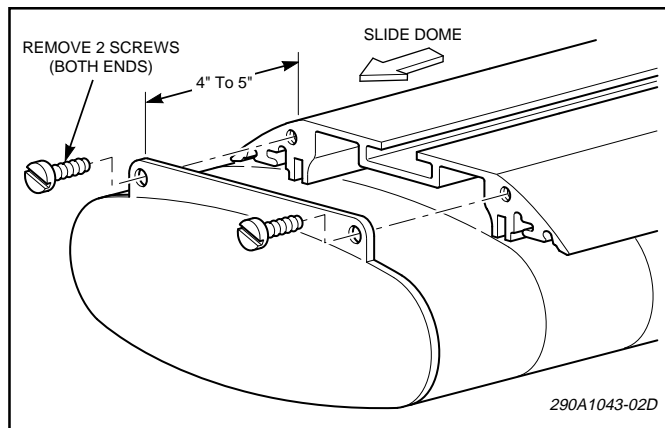

Figure 2.
the dome assembly out about 4 or 5 inches, along the slots in the extrusion as shown in figure 2.
a. Remove the two screws, located at the identification plate, at one end of a dome assembly. Slide the dome assembly out about 4 or 5 inches, along the slots in the extrusion as shown in figure 2.